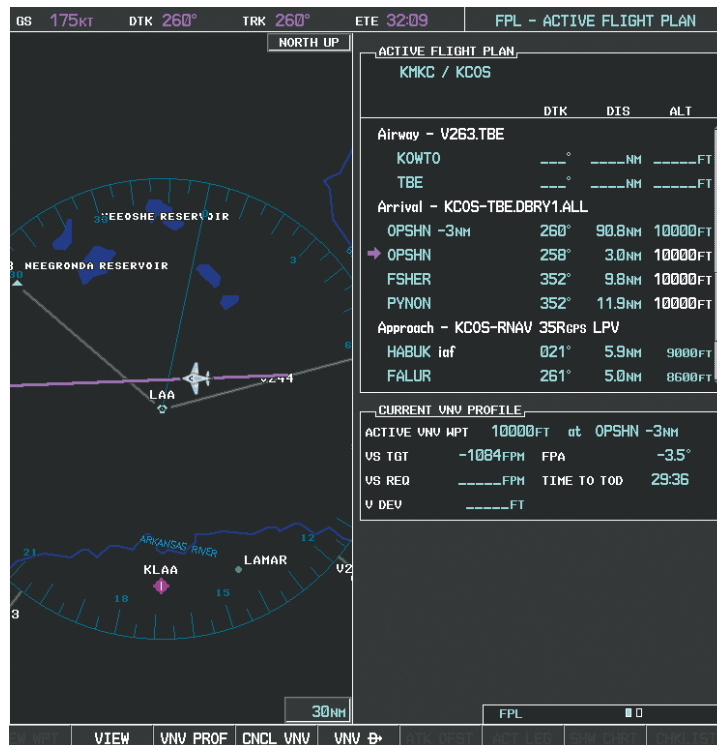

Figure 5-127 Loaded Approach
- i) With 'LOAD?' highlighted, again press the **ENT** Key. The selected approach is added to the flight plan as seen in Figure 5-127.